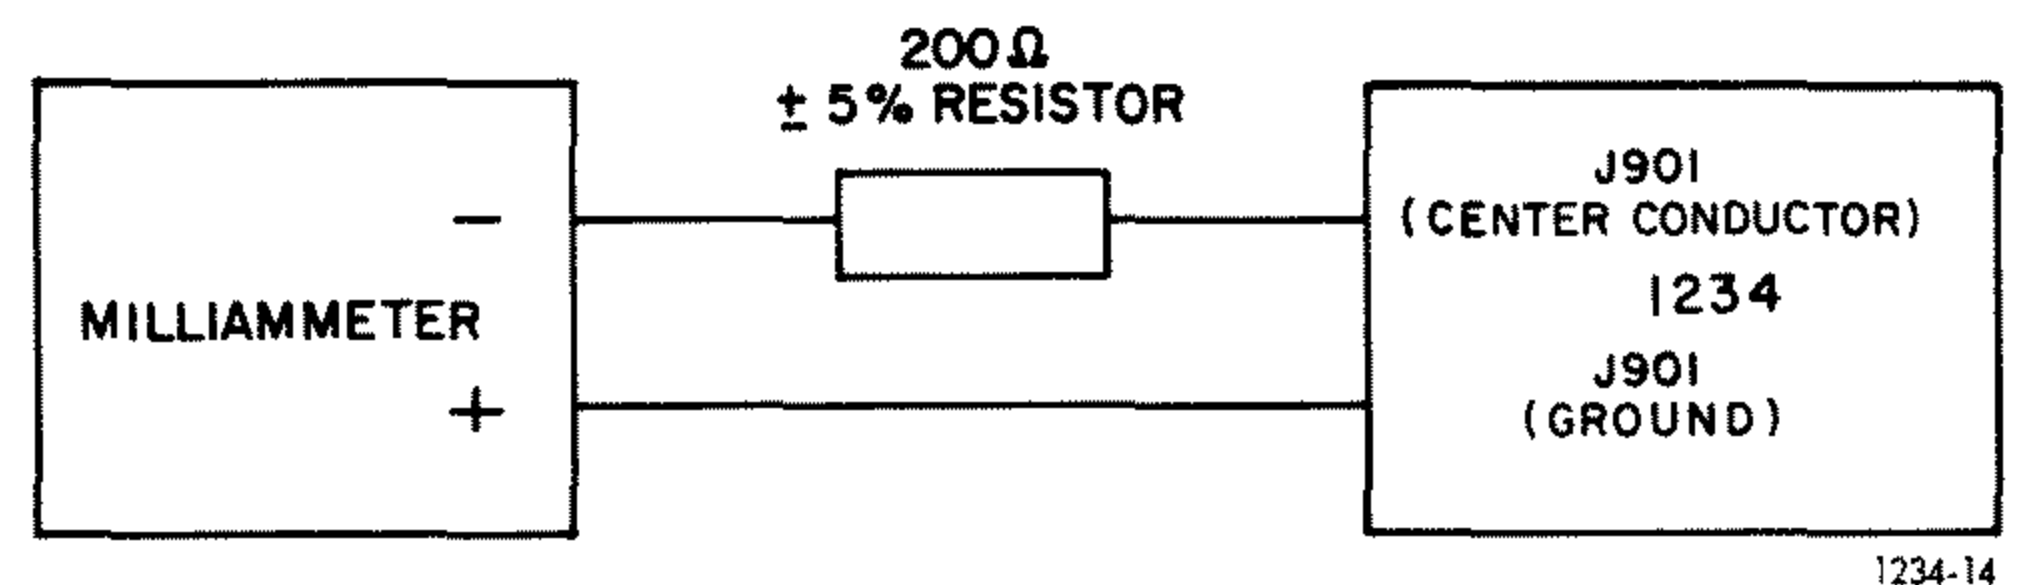

Figure 5-3. Bolometer bias-current test setup.
- Connect milliammeter and a 200-Ω resistor in series with bolometer bias-current supply in accordance with setup and instructions of Figure 5-3.